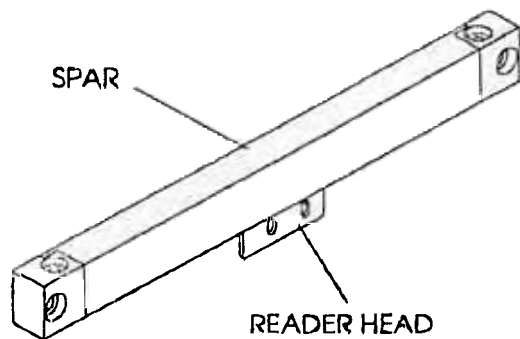
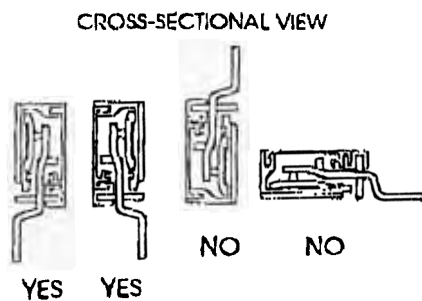

Figure 4. Reader Head Down
Figure 5. Scale Orientation
- To prevent the reader head from being directly exposed to chips and cutting fluid, the scale must be installed with the reader head down. See Figure 4. The scale is not designed to be mounted with the reader head mounted up or sideways. See Figure 5.